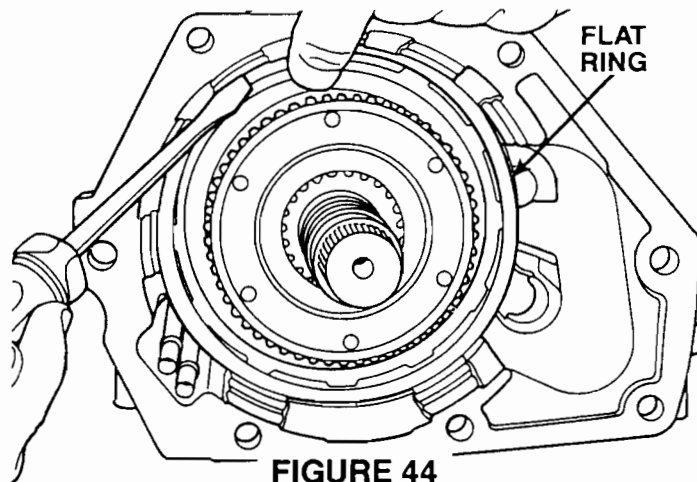

FIGURE 44
13. After reinstalling the access plate and gasket, install the flat snap ring. Use a large screwdriver to be sure that it's seated properly. Then reinstall the wave ring (Figure 44) using the same seating technique.